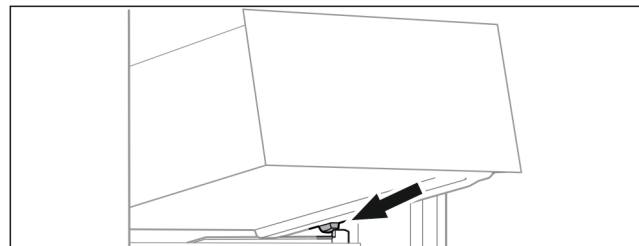

Fig. 94
- ▶ Place drawer at an angle behind the stoppers on the molded rib. (see Fig. 94)